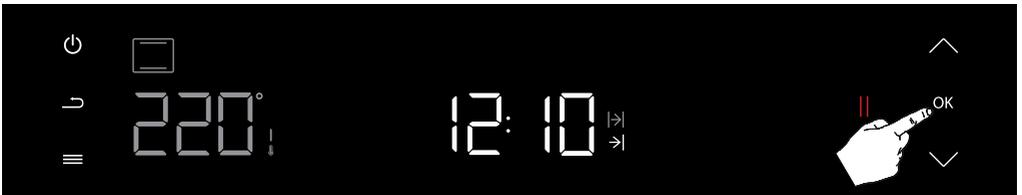

Figure 26
Press the Confirm button (OK) once to enter the time-shift cooking function. (See Fig. 26) Let's cook by delaying the cooking time we have set as **12:10** for **20 minutes**: